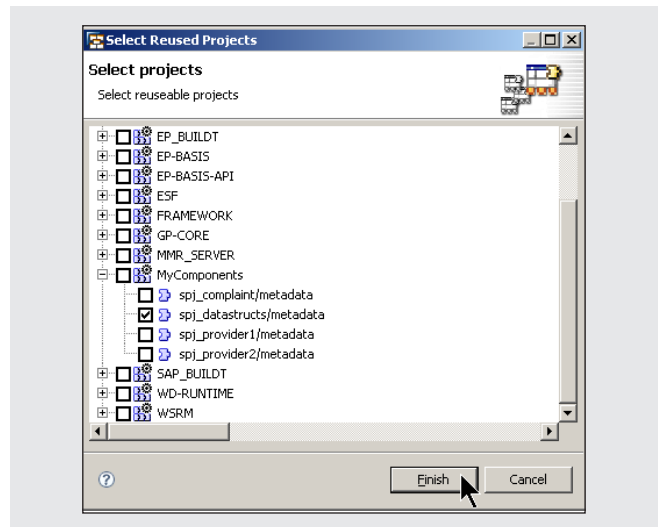

Figure 2 Setting references to other projects
6. In the dialog that pops up, select Reused Projects, expand the MyComponents node, and set the checkmark for the `spj_datastructs` project. Click on Finish to set the reference (as shown in **Figure 2**).